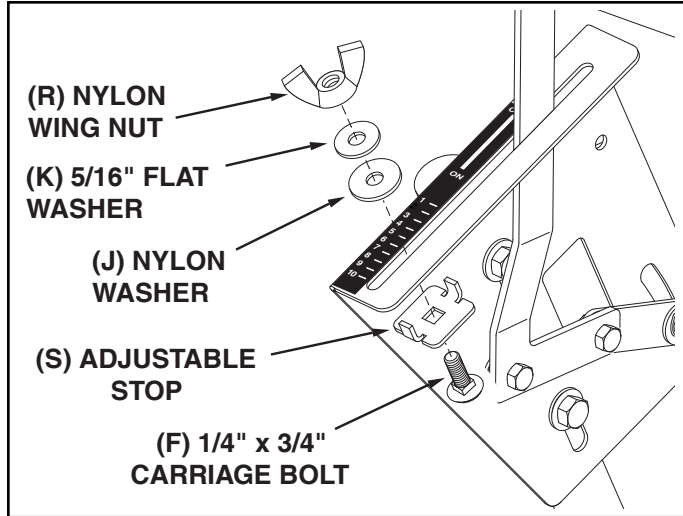

FIGURE 12
23. Place the adjustable stop (S) into the "ON" end of the slot in the top of the flow control mounting bracket. Secure with the 1/4" x 3/4" carriage bolt (F), a nylon washer (J), a 5/16" flat washer (K) and the nylon wing nut (R). See figure 12.